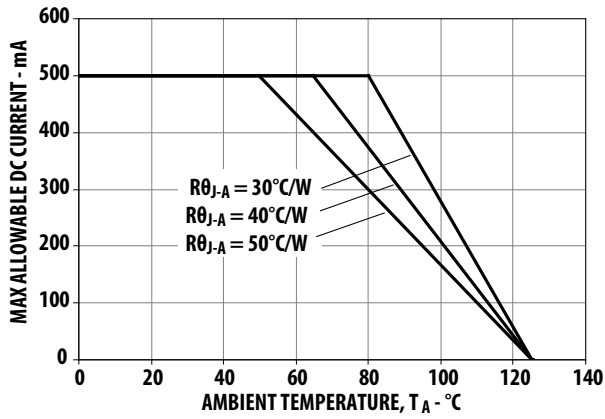

Figure 10. Maximum Forward Current vs. Ambient Temperature. Derated based on T_{JMAX} = 125 °C, R_{θJ-A} = 30 °C/W, 40 °C/W and 50 °C/W
1. Derate linearly based on Figure 10 for AllInGaP and Figure 22 for InGaN.